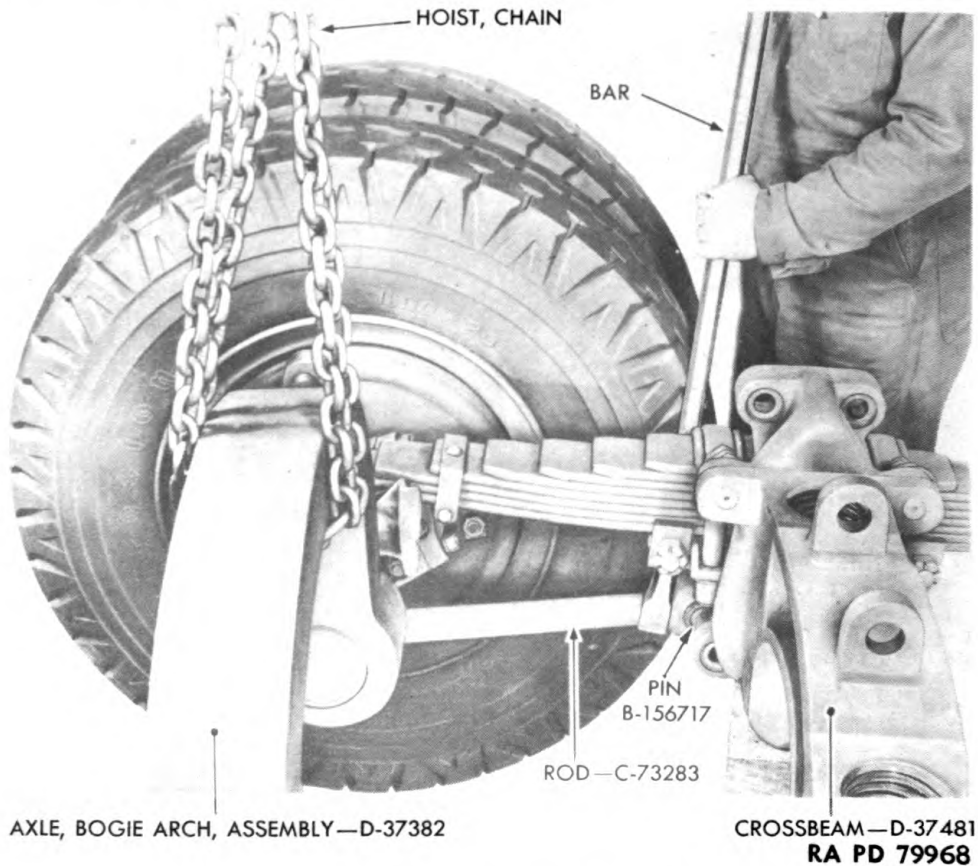

Figure 264—Removing Bogie Arch Axle
(1) Support arch axle with a chain hoist so axle will not fall when lower torque rods are loosened.
(2) Remove nut A168933 and washer BECX1T from front pin B156717, then pry torque rod and pin from bracket D37502 (fig. 264).
(3) Repeat procedure as described in steps (1) and (2) above to loosen the other lower rear torque rod.
(4) Pull bogie arch axle assembly out from under ends of bogie springs and away from crossbeam.